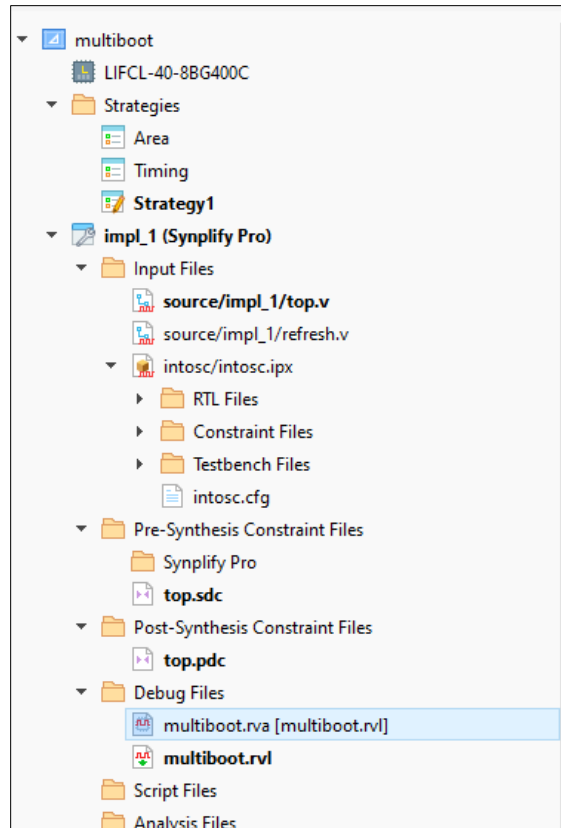

Figure 7.2. multiboot.rva File
- b. Launch and run Reveal Analyzer by double-clicking the **multiboot.rva** file (Figure 7.2).